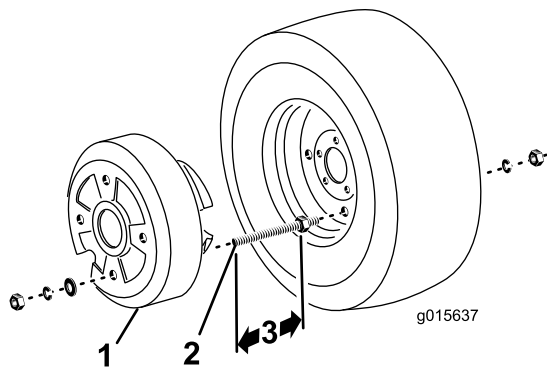

Figure 24
2. Add 3-7/8 inches to the measurement attained. This becomes dimension "A" in Figure 24.
4. Insert the threaded rods through two opposite holes in the rim and secure them in place with 1/2" lockwashers and hex nuts (Figure 24).
5. Place the wheel weight over the ends of the threaded rods and secure in place with the flatwashers, lockwashers and hex nuts (Figure 24). Do not overtighten the hex nuts or damage to the plastic housing of the weight may occur.